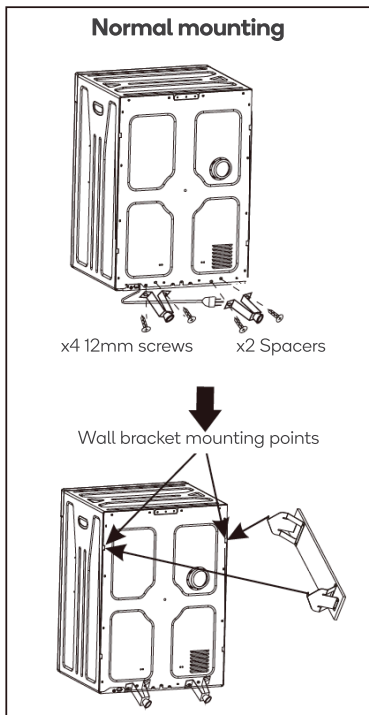

Figure 4
6. **Normal mounting:** Using the x4 12mm screws, attach the x2 spacers to the dryer (Figure 4).